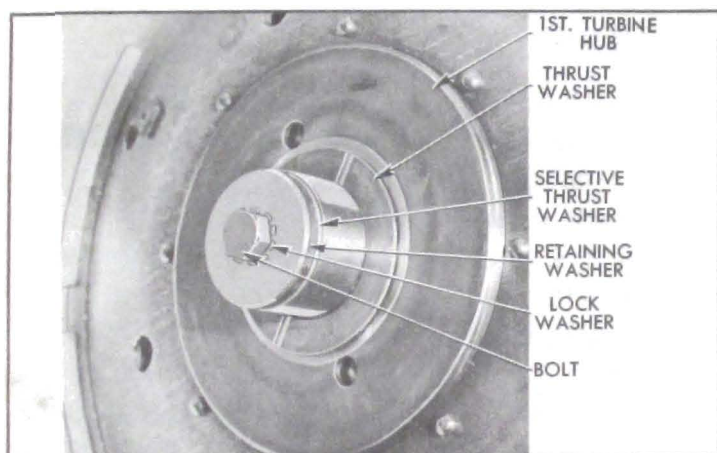

Figure 5-28—Turbine Retaining Washer and Thrust Washer
3. Remove reverse band adjustment cover and gasket, using Removing Tool J 2655. Shift into "Parking" and pry up on reverse band operating lever with screwdriver to lock input shaft while removing the bolt, lockwasher, retaining washer and thrust washer from front end of input shaft. See figure 5-28. Remove bronze thrust washer from turbine hub.